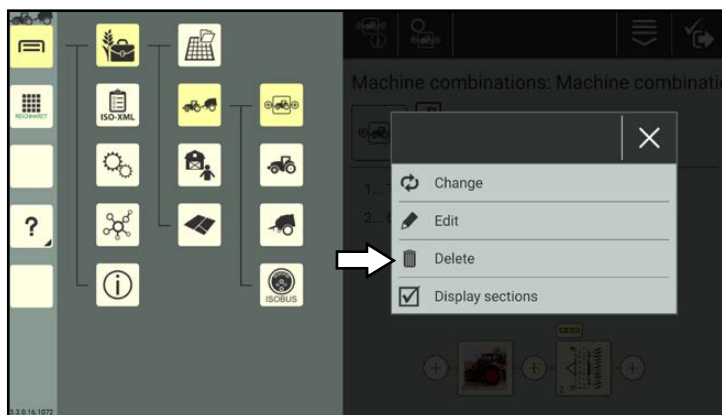

Fig. 319: Selecting "Delete"
2. Select "Delete" (see Fig. 319).